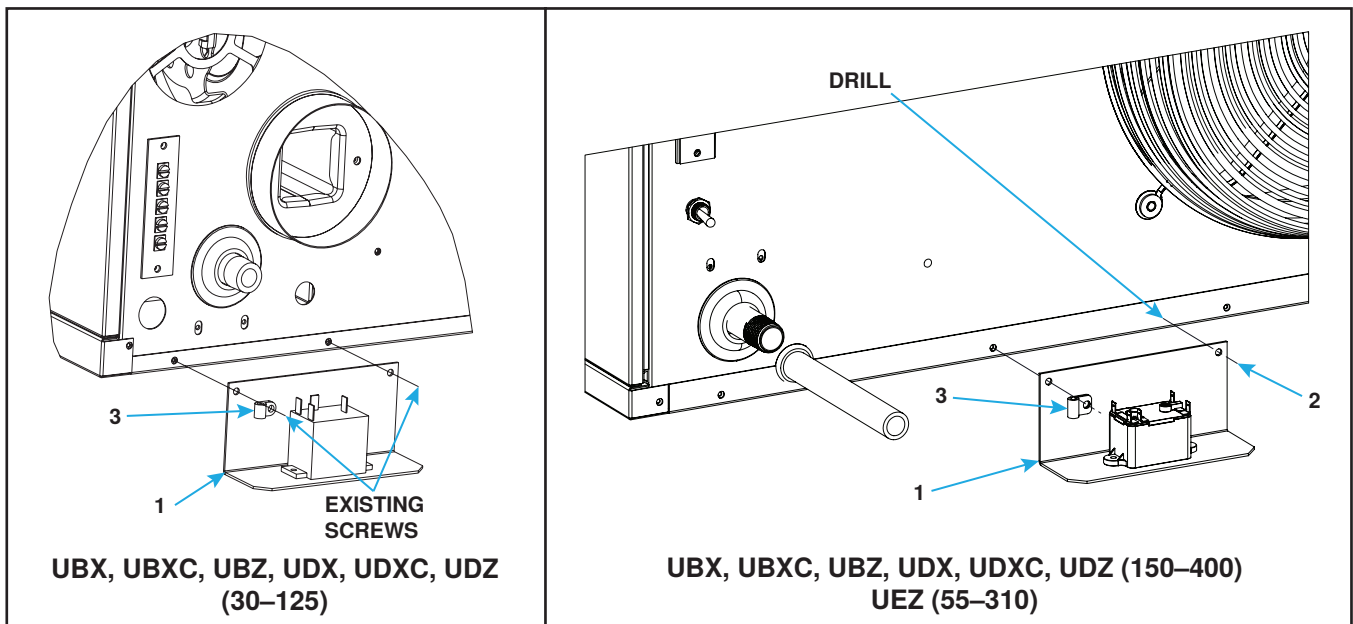

Figure 7. Relay Installation—Models UBX, UBXC, UBZ, UDX, UDXC, UDZ, and UEZ (Refer to Table 2)
- e. For gas-fired unit heater models UBX, UBXC, UBZ, UDX, UDXC, UDZ, and UEZ (see Figure 7):
- (1) At rear of heater, remove and save screws from edge of cabinet bottom.
- (2) For model UBX, UBXC, UBZ, UDX, UDXC, and UDZ unit sizes 150–400 and all UEZ models, align relay assembly (1) as shown and use bracket as template to drill hole in edge of cabinet bottom as shown.
- (3) Secure relay assembly (1) and cable clamp (3) as shown using existing screws for model UBX, UBXC, UBZ, UDX, UDXC, and UDZ unit sizes 30–125 or one existing screw and one screw (2) from kit for model UBX, UBXC, UBZ, UDX, UDXC, and UDZ unit sizes 150–400 and all UEZ models.